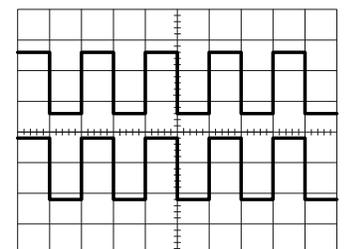

Figure 3
11. Set the TIME/DIV (18) back to 0.5-mS/DIV.
12. Set the VERT MODE (15) switch to CH2 and align the trace with the horizontal center line of the grid by adjusting the CH2 POSITION (14) control.
13. Connect a second probe to the CH2 INPUT terminal (10).
14. Connect the probe tip to the CAL (36) terminal so both CH1 and CH2 probes are connected.
15. Set the CH2 VOLTS/DIV (12) control to 0.1 V/DIV and select X10 on the CH 2 probe.
16. Set the CH2 AC-DC-GND (11) switch to AC and release the GND. You should now see the same square wave signal as before, the only difference being the input is now on CH2 instead of CH1.
17. Set the VERT MODE (15) switch to DUAL. You should now be able to see the waveforms of both CH1 and CH2 as shown in Figure 3. You are able to move the waveform of each channel by using the corresponding CH1 or CH2 VERT POSITION (9), (14) controls.